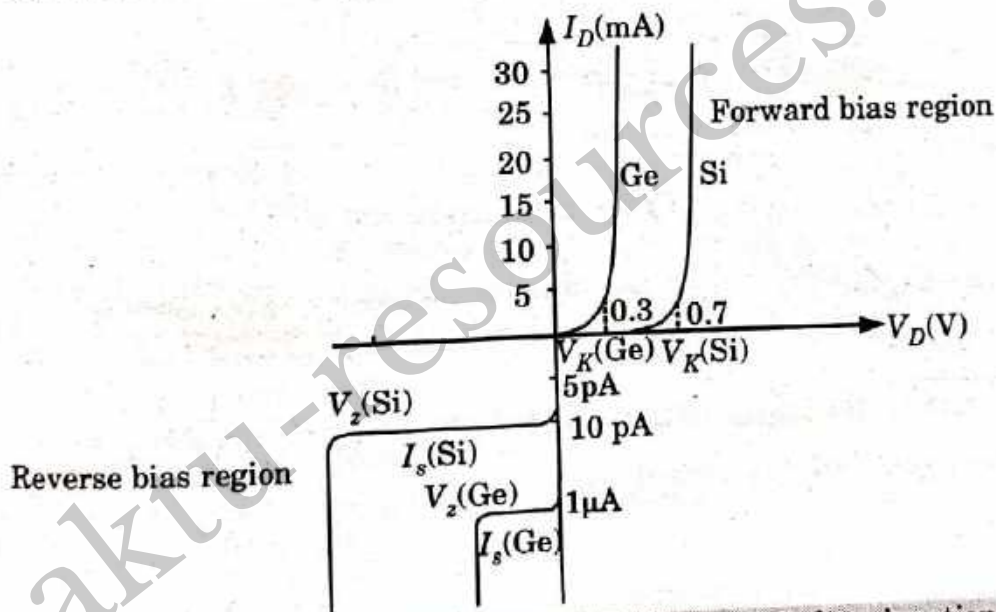

Fig. 3.17.1. Volt-ampere characteristics of p - n junction.
3. As the forward applied voltage increases beyond threshold voltage, the forward current rises exponentially as shown in Fig. 3.17.1.
3. In practical, a small current of the order of μA flows in the circuit due to minority carriers. This is known as reverse current. The reverse current is shown in Fig. 3.17.1.